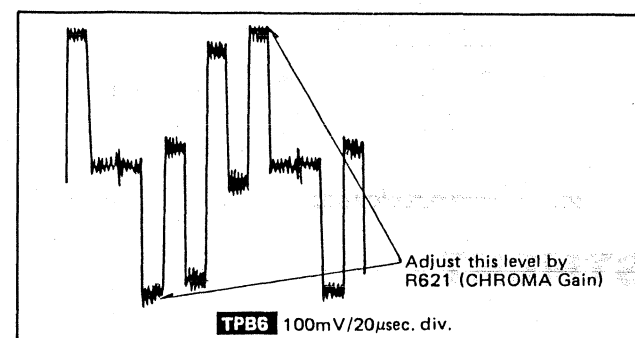

Fig. 10
- Adjust R621 (Chroma Gain) so that the waveform at this point of time becomes equal to that recorded in Step 5 as shown in Fig. 10.